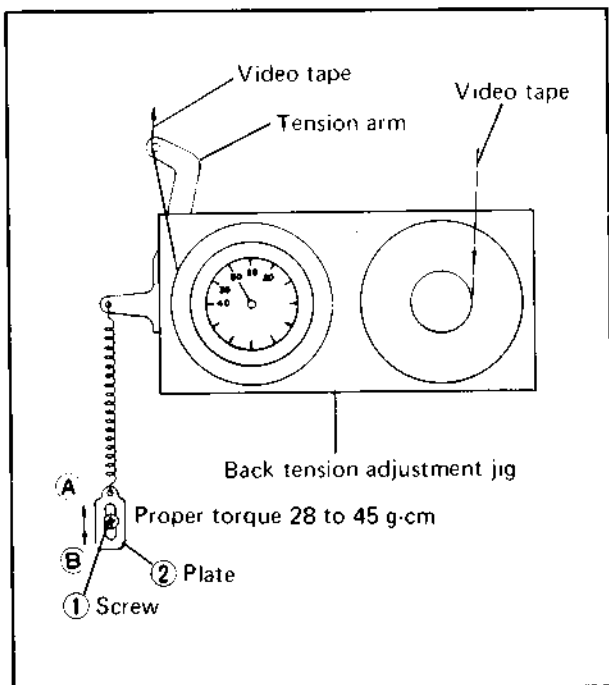

Fig. 5-19 Back tension adjustment
- If measured back-tension is greater than 45 grams or less than 28 grams, loosen screw ① and adjust position of plate ② so that the back-tension becomes 35 grams; then tighten screw ① (see Fig. 5-19).